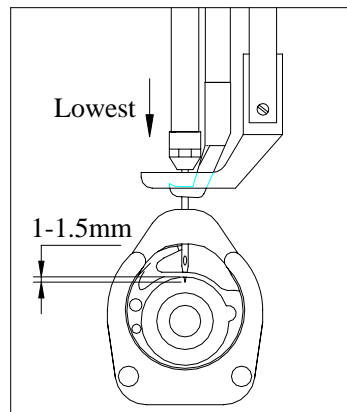

Fig.2
(1) Turn the hand wheel according to the arrow indicated on the pulley cover until the needle bar reaches the highest position.
(2) Loosen the pinching screw to unclamp the needle socket.
(3) Insert the needle into the bottom of the needle socket with the long slot inward and the threading slot 100 towards the left.
(4) Fix the needle with the pinching screw.
(5) When the needle is in the lowest position, the tip is required to stick out 1-1.5 mm off the long slot of the shuttle. Such circumstances as winding or end breaking will occur if the tip sticks out too much. (Fig. 2)